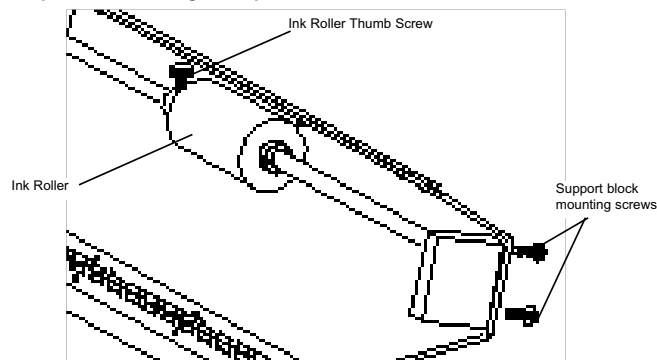

Figure 4
Before operating the machine, the ink roller must be aligned to contact the signature plates. There are two adjustments on the ink roller. A thumb screw is provided next to the roller itself to move it across the shaft. In addition there are four (4) adjustment screws in the hood which adjust it up or down to contact the signature plate (fig. 4).